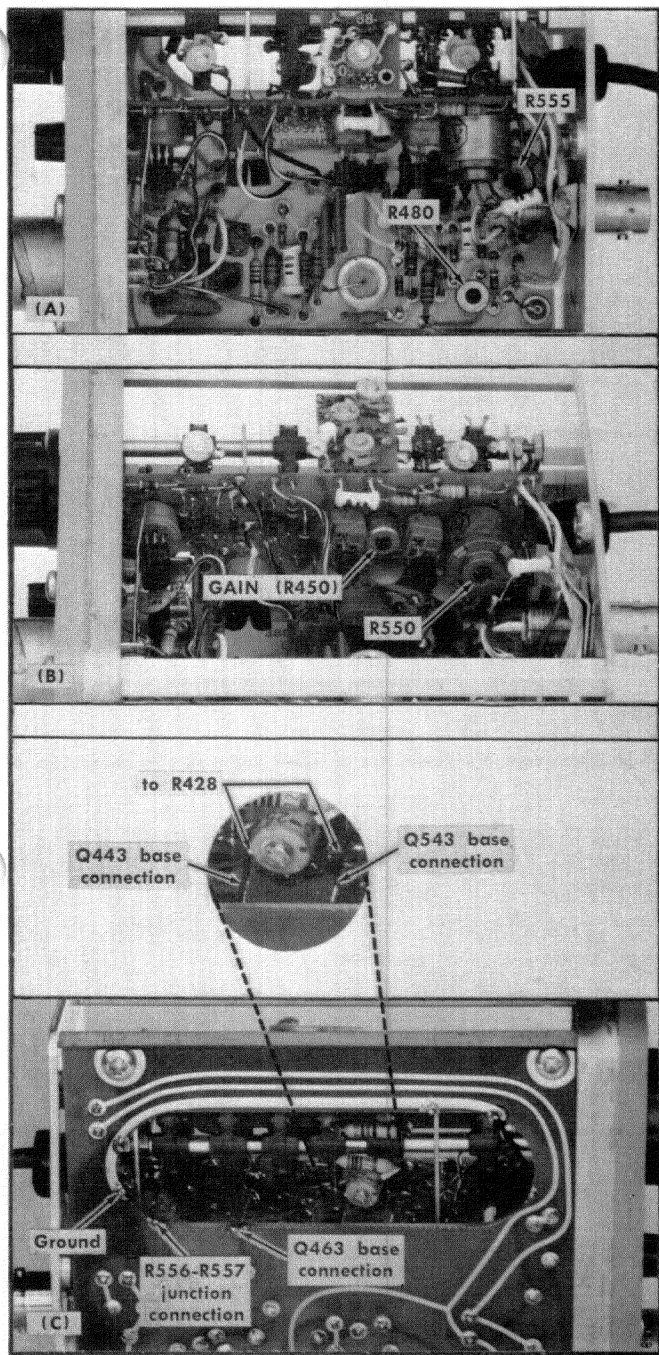

Fig. 6-24. Test points and adjustment locations for steps 3 and 5.
e. CHECK and ADJUST—Amplifier DC balance. The trace should remain exactly at graticule vertical center under the setups given in Table 6-6. Perform the steps in the sequence given. Temporarily solder a 10  $\Omega$   $\frac{1}{4}$  W resistor (item 28) between indicated points while making each adjustment. The resistor and lead length should be cut to  $\frac{3}{4}$  inch (end to end) to minimize circuit interference. See Fig. 6-24 (B) and (C) for connection and adjustment locations.
- 42 inch 50 Ω cable (item 9)
- GR to BNC female adapter (item 12)
- Probe tip to GR adapter (item 13)
g. ADJUST—GAIN, R450, Fig. 6-24 (B), to provide exactly 4 divisions of vertical display.